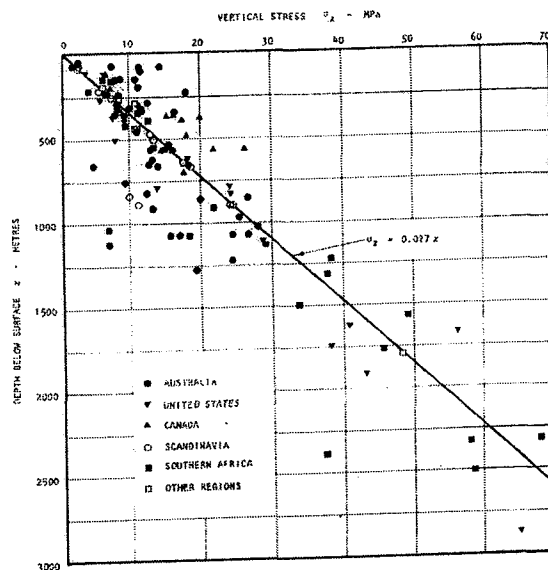

Figure 1
- i Based on Figure 1, what is the average vertical stress component of the rock at a depth of 900 metres?